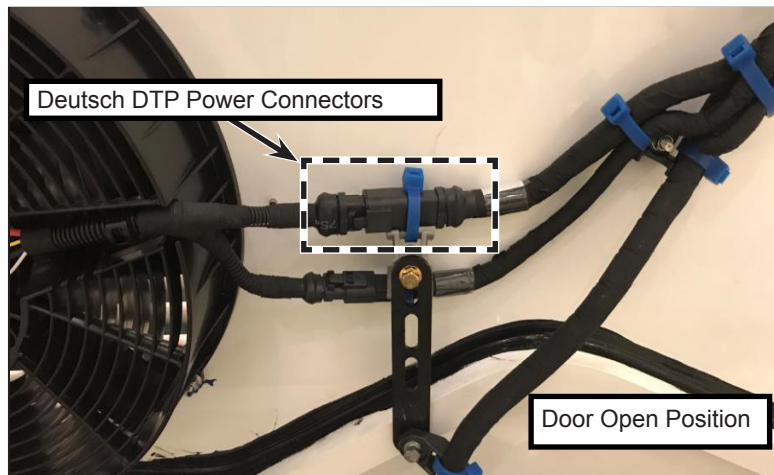

Figure 3 - Engine Fan Deutsch DTP Power Connectors Installation
- 1.9. Open the engine compartment door and locate the engine fan Deutsch DTP power connectors (see figure 3).